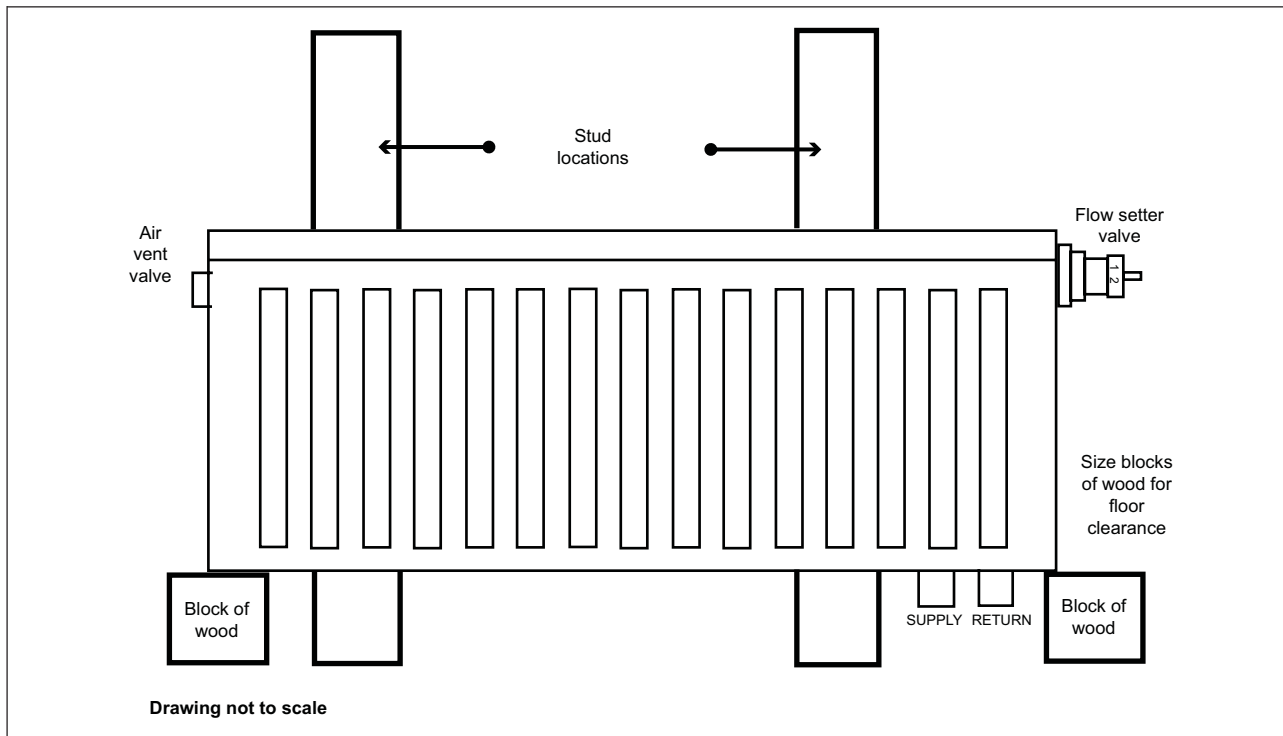

Fig. 6 Front view of radiator: Mounting of top clips
Straight (part number 1016311) and angled (part number 1016312) diverter valves are available from Buderus for use in a one pipe system (fig. 6). Shut offs are located on the supply and return branches to the radiator, isolating the radiator from the piping system. This will enable you to remove the radiator after draining it to do any maintenance needed to the wall behind it.
- Place the radiator on the wooden blocks (see Fig. 6). Using the screws provided, fasten the two bottom clips/bracket to the wall.